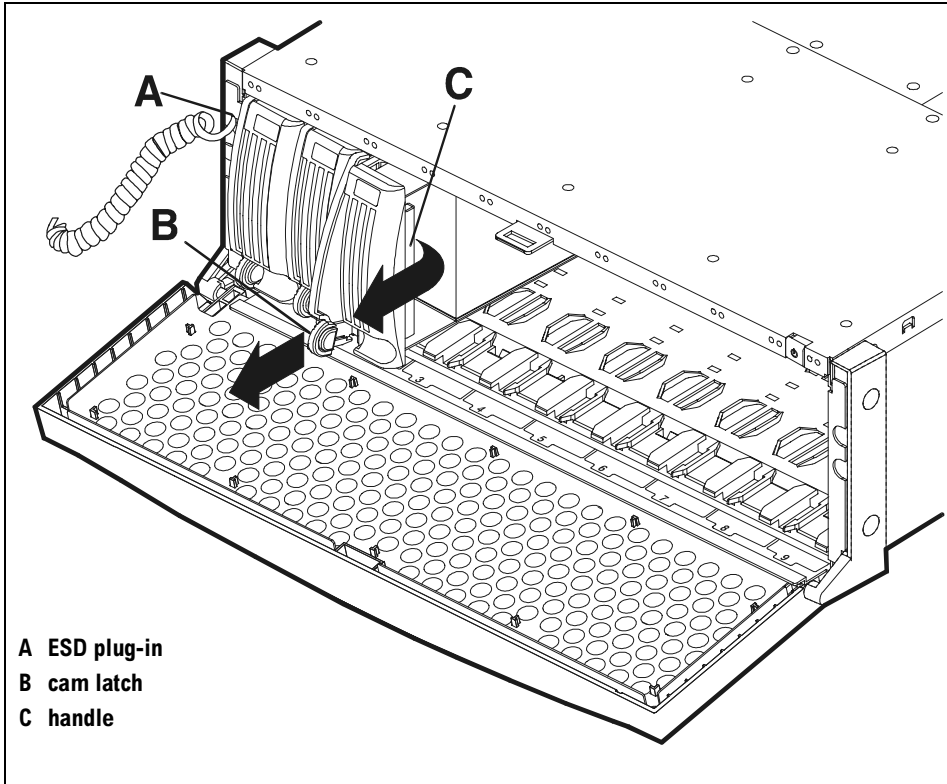

Figure 40 Disk Removal
2. Insert the plug end of your ESD wrist strap in the disk system ESD inlet (A in Figure 40). (This step is not required for adding a filler.)
3. Release the disk from the slot by squeezing the latch tab (B) and pulling it toward you.